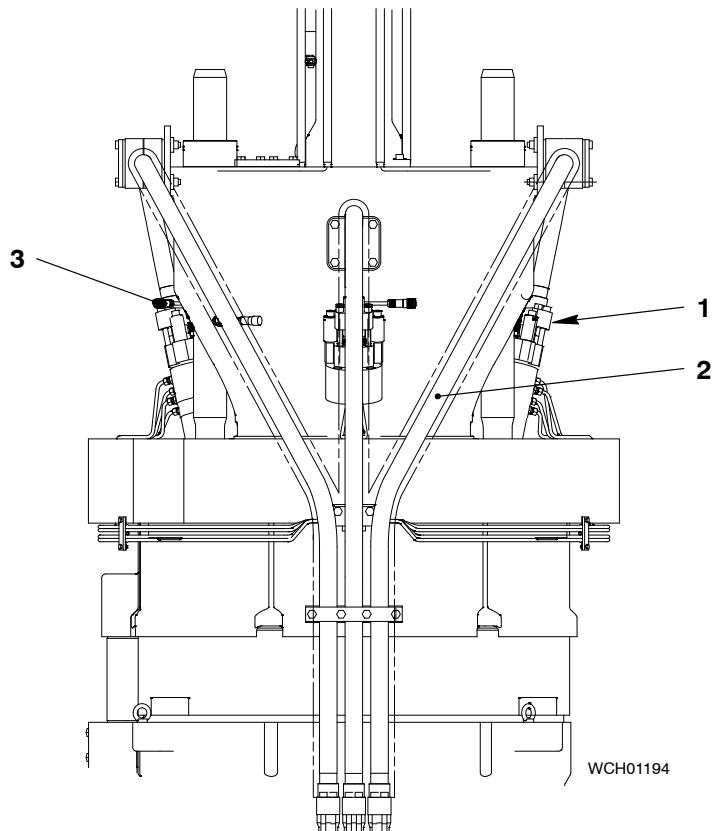

Fig. 1: High Pressure Pipes
- 3) Disconnect the plug (3, Fig. 1) from the injection valve (1).